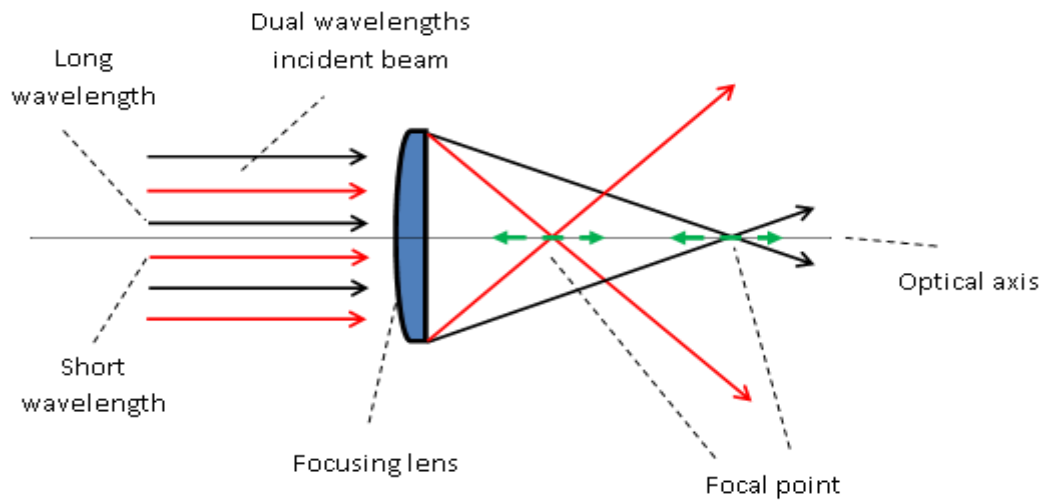

Figure 3– Controlling the focal point of each wavelength
- Controlling chromatic aberration for two or more wavelengths that are close to each other. This application allows changing the focal length of each wavelength according to the requirements, in order to achieve fixed distance between them (See figure 3 below).